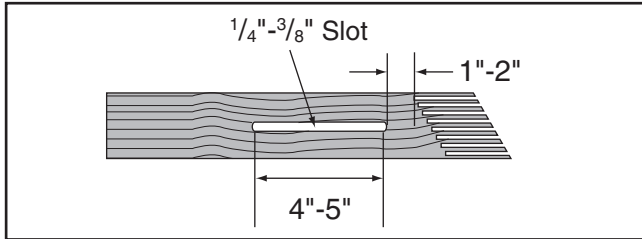

Figure 81. Slot routed in featherboard.
4. Rout a $\frac{1}{4}$ "- $\frac{3}{8}$ " wide slot 4"-5" long in the workpiece and 1"-2" from the short end of the featherboard (see **Figure 81**).